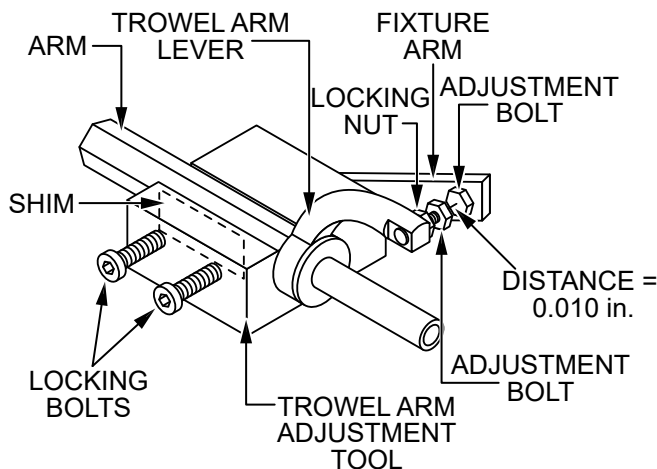

Figure 51. Trowel Arm Adjustment
4. Unscrew the **locking bolts** on the adjustment tool and place the **trowel arm** into the fixture channel as shown in Figure 51. A thin **shim** may be required to cover the blade holes on the trowel arm. Make sure to align the **trowel arm adjustment bolt** with the **fixture adjustment bolt**.
5. Tighten the **locking bolts** (Figure 51) with an Allen wrench to secure the trowel arm in place.
6. Loosen the **locking nut** on the **trowel arm lever** (Figure 51), then turn the **trowel arm adjustment bolt** until it barely touches (0.010") the **fixture adjustment bolt**.